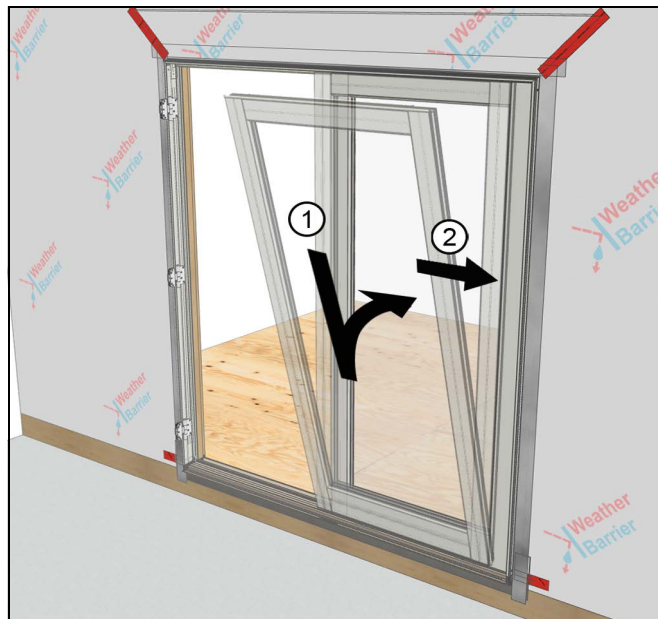

Figure 20
2. Stationary panel is installed first by tipping panel in over the sill retainer and then sliding over and engaging the panel bracket into the sill retainer and jamb retainers. See Figure 20.